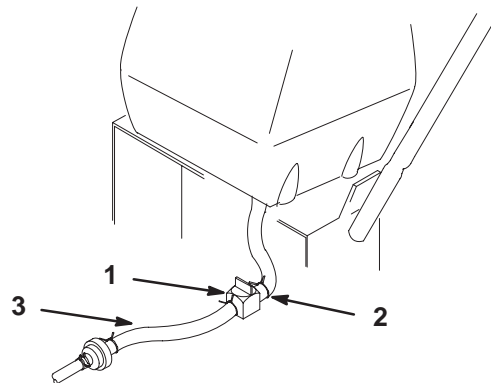

Figure 36
- Close the fuel shut-off valve at the fuel tank (Fig. 36).
- Squeeze the ends of the hose clamp together and slide it up the fuel line away from the valve (Fig. 36).
5. Pull the fuel line off of the valve (Fig. 36).
2. Close fuel shut-off valve at the fuel tank (Fig. 36).
6. Open the fuel shut-off valve at the fuel tank (Fig. 36).